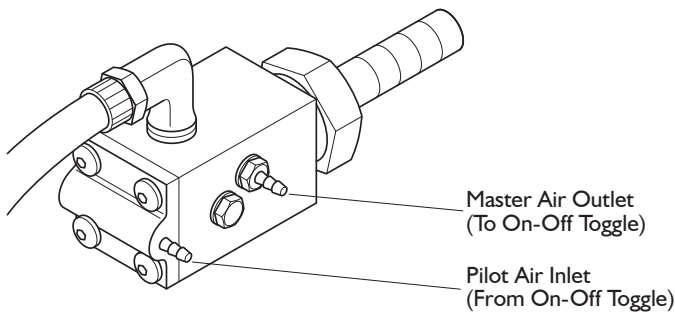

Figure 2
1. Identify the plated 1/16" barb fitting on the side of the master shut-off valve for air (*Figure 2*). This outlet provides air for the on-off toggle valve. On DCI units there is a transparent tube that goes to the inlet barb on the on-off toggle valve. Connect this tube to the barb on the master shut-off valve.
2. The 1/16" brass barb fitting on the plastic cap of the air master shut-off valve is the pilot air inlet (*Figure 2*). Connect to this barb the yellow tube that comes from the outlet side of the on-off toggle valve.